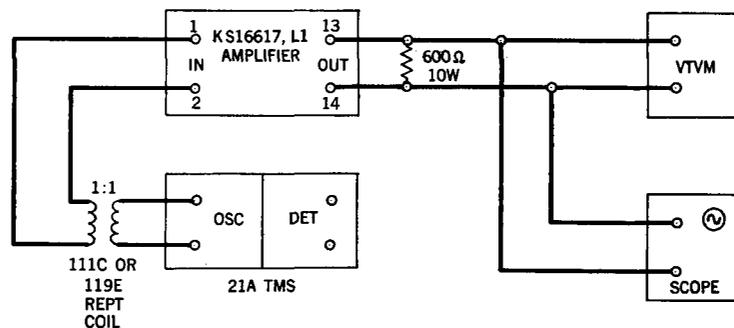

Fig. 3 – Test Setup for Observing Distortion of High-Level Channel
5.03 The distortion test should be made using the test setup shown in Fig. 3. Chart III outlines the step procedure to be followed for the test.
2	Connect circuit as shown in Fig. 3.